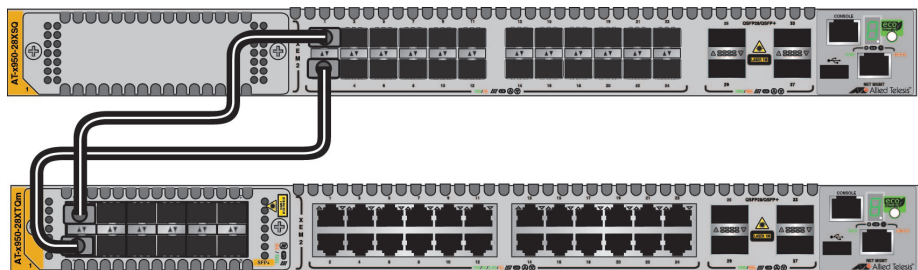

Figure 39. Unsupported Trunk of Connected Base and Line Card Ports
- ❑ Trunks cannot have links that interconnect base ports and XEM2 Line Card ports. The example trunk in Figure 39 is unsupported because base 10Gbps ports 1 and 2 in the top switch are connected to ports 1 and 2 on the XEM2-12XS Line Card in the bottom switch.